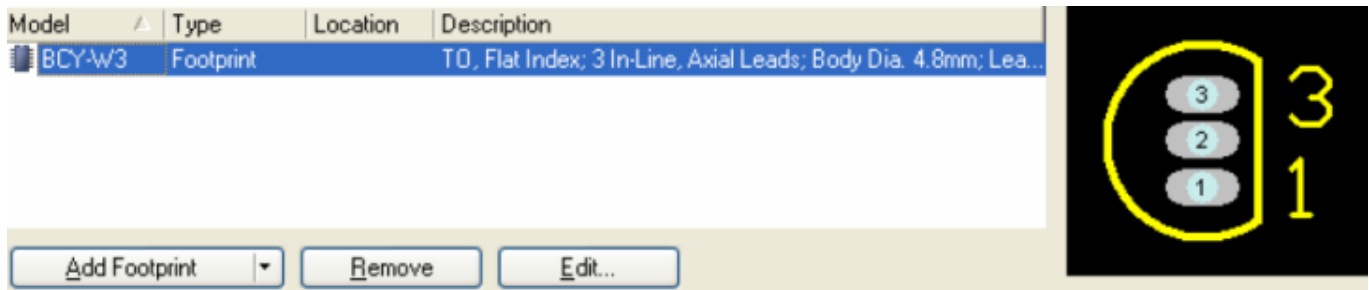

Figure 17. The footprint model has been added to the component.
9. Click **OK** to add the model. It will appear in the **Model** region at the bottom of the workspace, as shown in Figure 17.